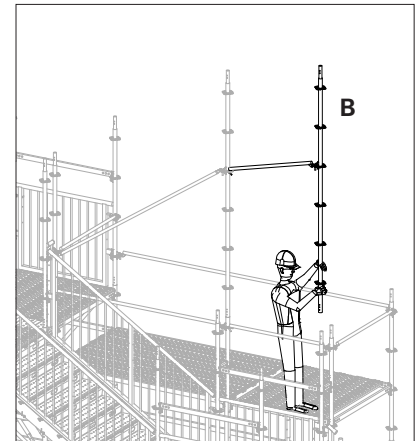

Fig. B3.01b
2. Following an anti-clockwise plan direction, attach the Guardrail UPGA 150 (**37**) to the next Standard at 2m high, then insert the Standard at Point **(B)** (Fig B3.01b).